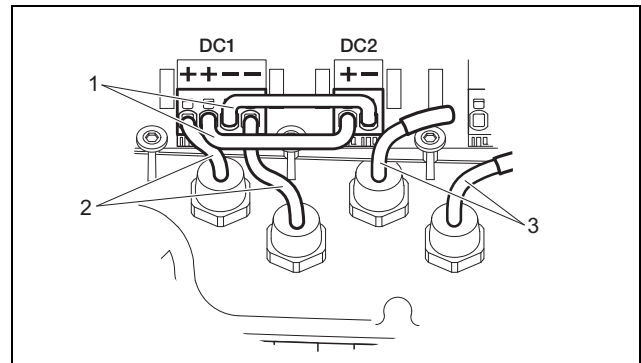

Fig. 21: Inputs 1 and 2 are connected parallel (PIKO 4.2)
- PIKO 4.2/7.0/8.3/10.1: If required, now connect inputs 1 and 2 **in parallel**. Insert the supplied bridges into the clamps as shown (figure 21/22).